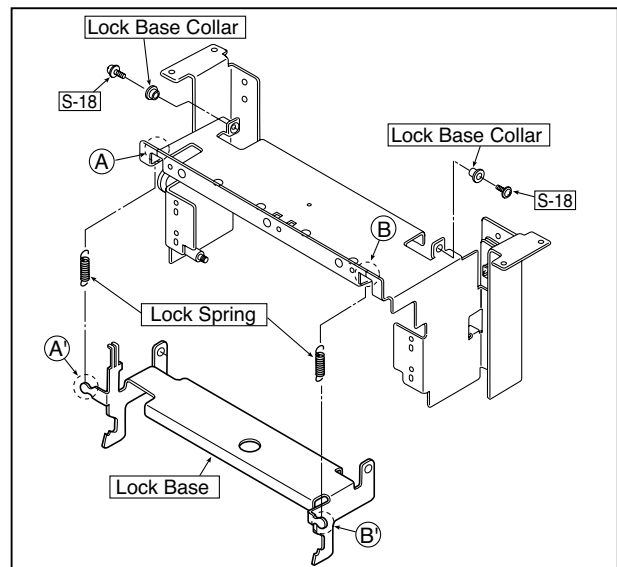

Fig.8
### 7) Remove the Lock Base. (See Figs.8.)
- 1.Remove the "S-18" screws shown in the figure 8.